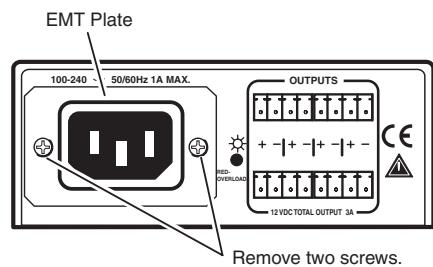

Figure 3 — Removing the EMT plate
2. Remove and retain the two Phillips head screws that secure the **EMT plate** (figure 3, below) to the PS 123 rear panel.
7. From the rear panel end, pull the EMT plate (see figure 3) out of the enclosure.
9. Install the EMT adapter plate (figure 1, ③, on page 1) (with conduit attached) into the opening from which you removed the EMT plate in step 7. Use the Phillips head screws (figure 3) that you removed in step 2 to attach the adapter plate.